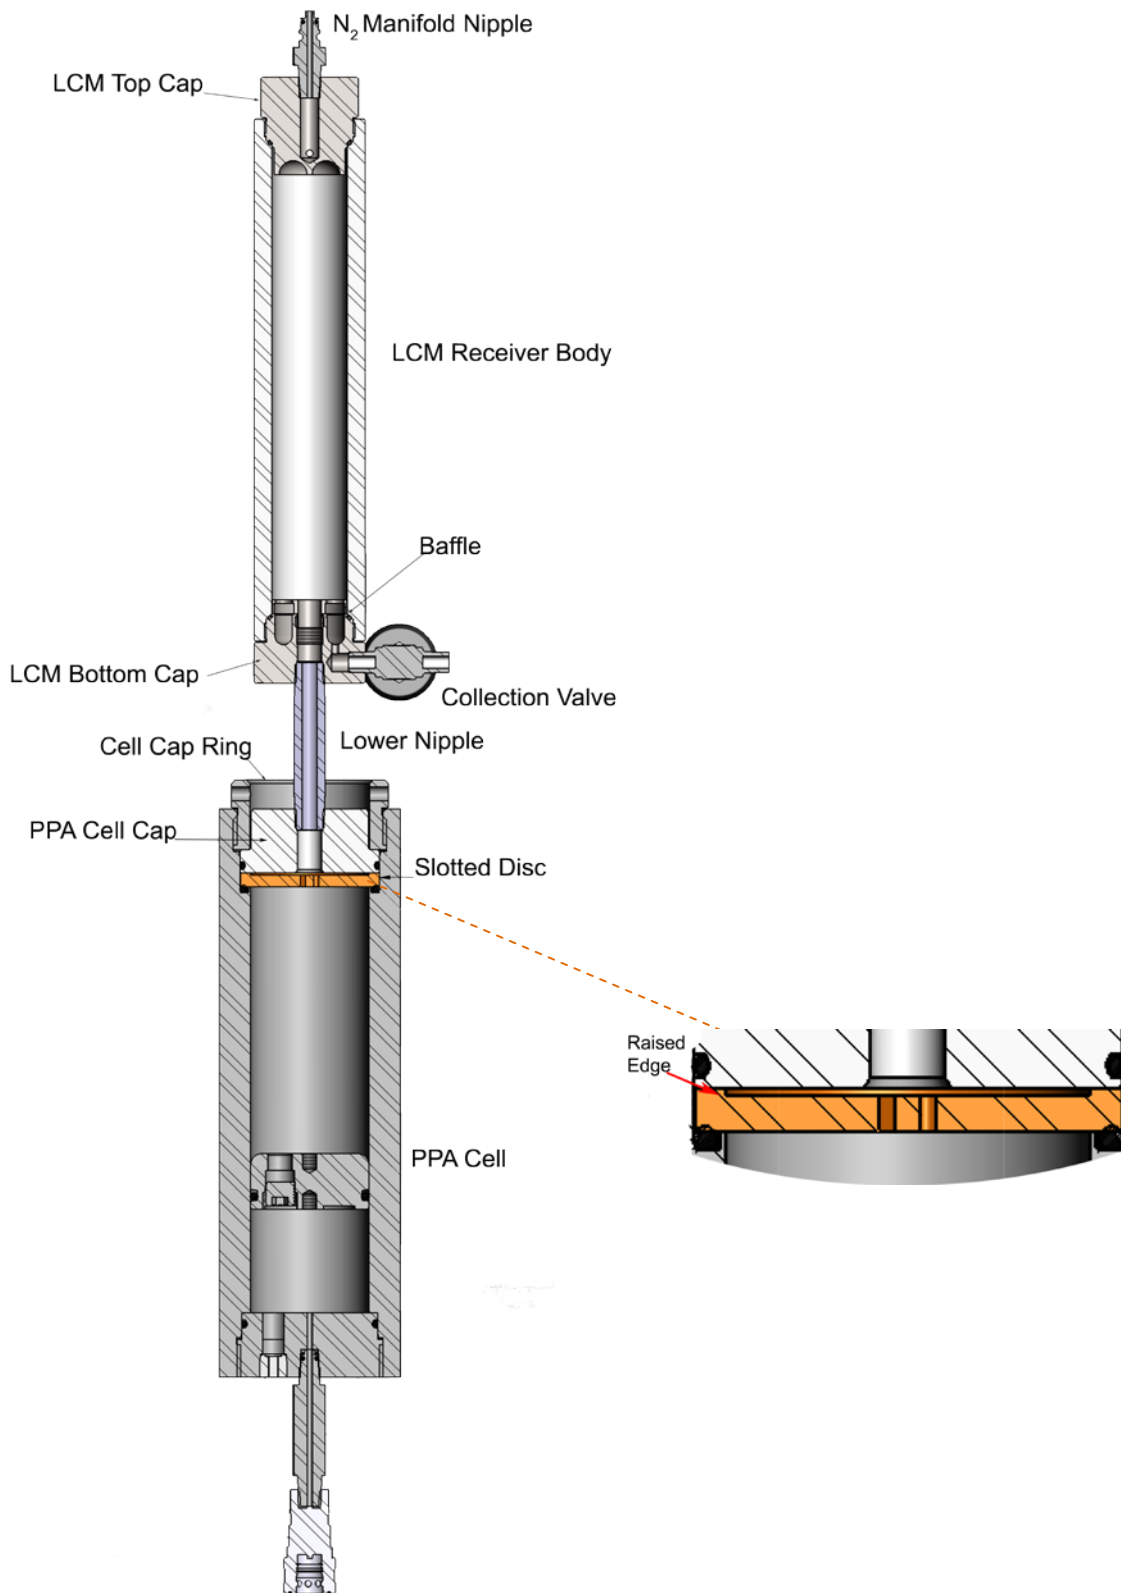

Figure 4-1 LCM Receiver Connected to PPA Cell
1. This receiver replaces the original receiver and the original cap of the PPA equipment (Figure 4-1). Assemble the PPA cell as described in the Fann PPA instruction manual.
5. Insert the PPA cell cap into the top of the PPA cell (Figure 4-1) and tighten the cell cap ring with the spanner wrench (P/N 206864).